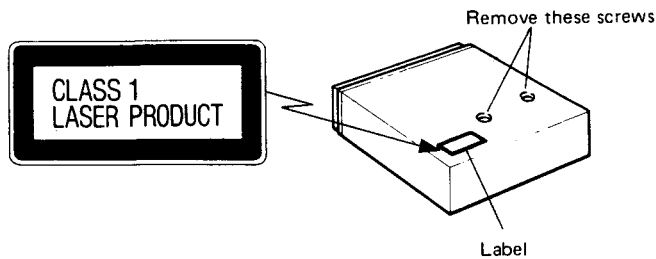

Fig. 2
2. A "CLASS 1 LASER PRODUCT" label is affixed to the bottom of the player. (Fig. 2)
- Two screws are affixed to the bottom of the unit to secure the mechanism during transport. Be sure to remove these screws before installation of the player. (Fig. 2)